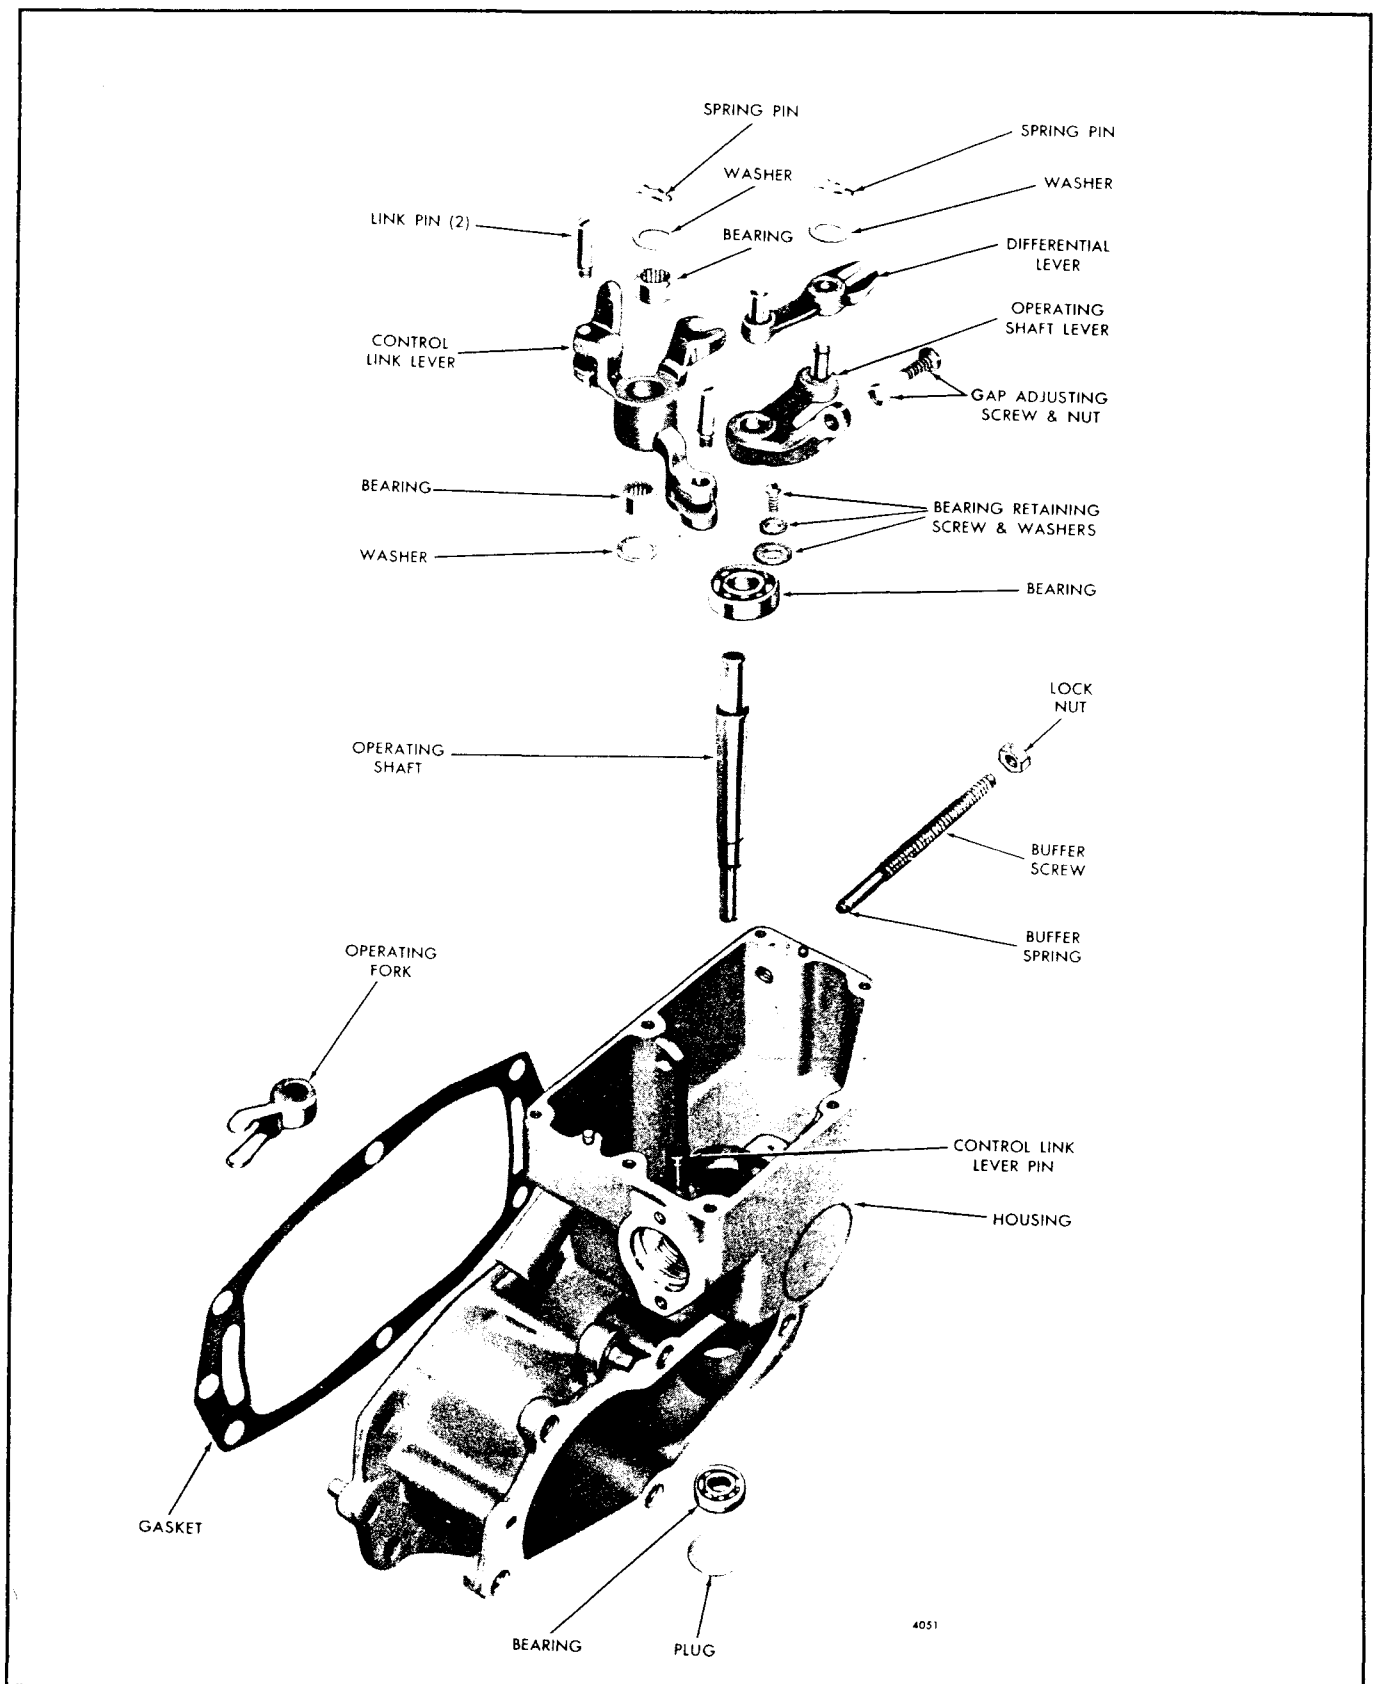

Fig. 7 - Governor Housing Details and Relative Location of Parts
2. Remove the spring pin and washer from the control link lever pin (Fig. 7) and withdraw the control link lever and washer.
Refer to Fig. 7 and assemble the governor housing as follows: